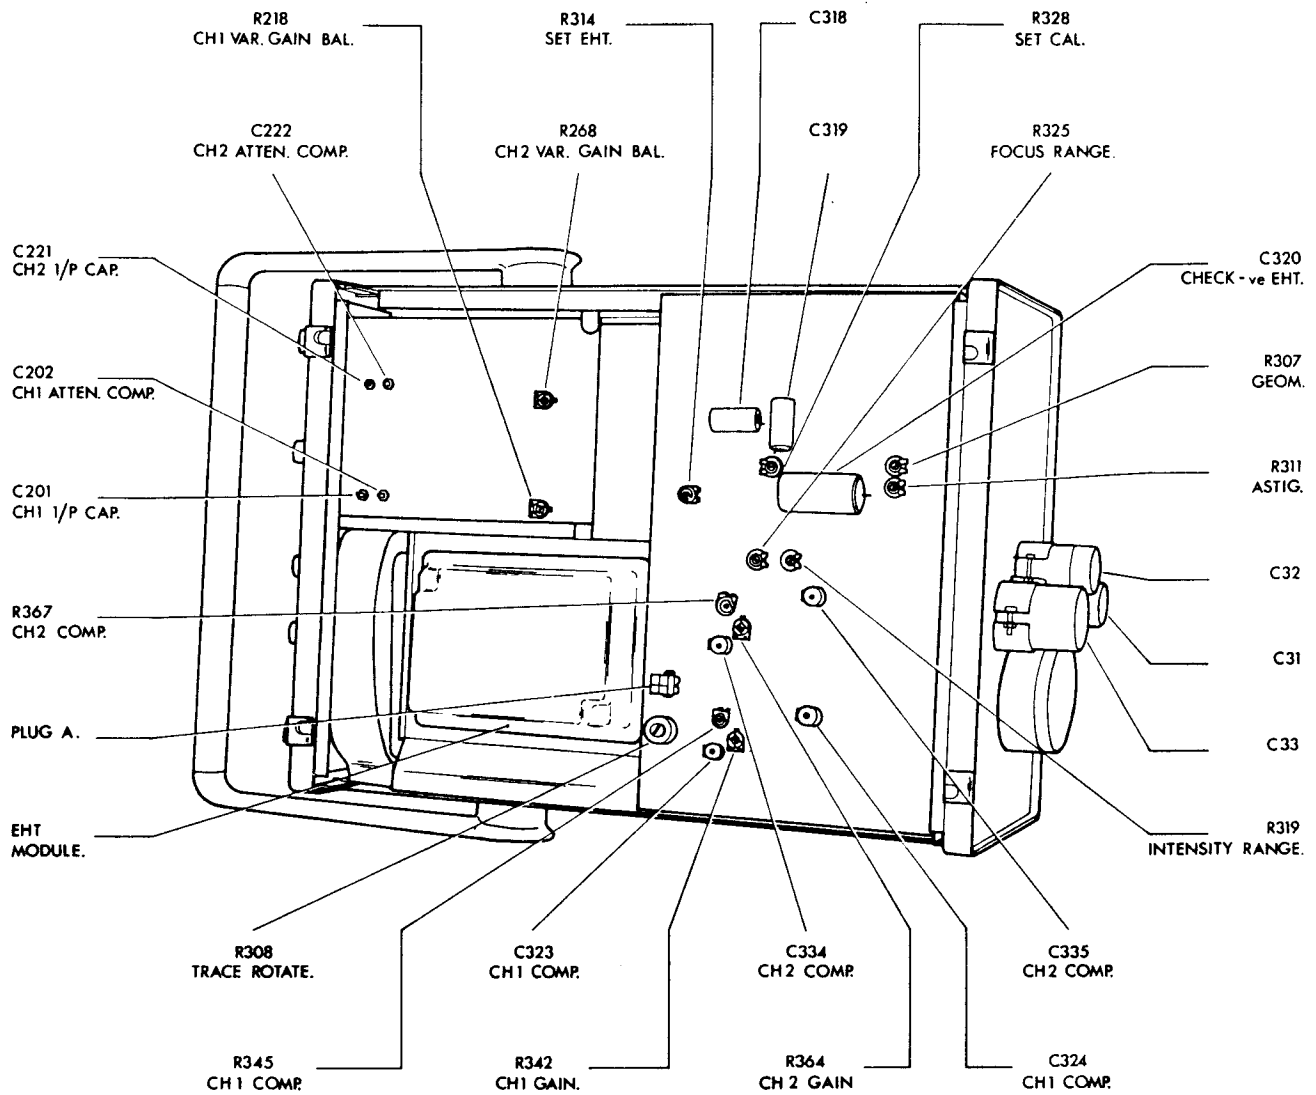

Fig. 3 Bottom view
5.4.3 C.R.T. Controls (Fig. 3)
5.4.5 Attenuator Compensation (Fig. 3)
5.4.6 Pulse Response and Bandwidth (Fig. 3)
5.4.9 Internal Calibrator (Fig. 3)